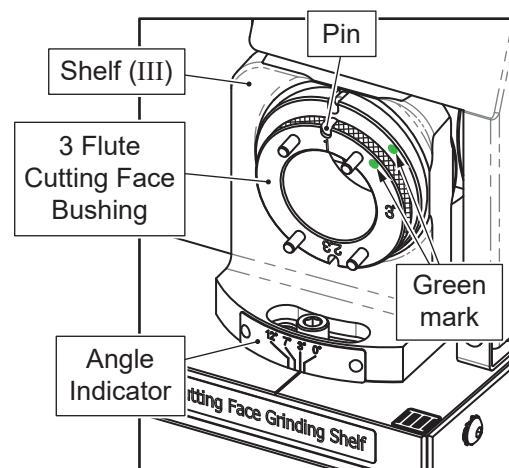

Fig. 12-3
3. Cutting Face Grinding Shelf (III) (Fig. 12-3)
- ① Adjust the Shelf (III) to 3°.
- ② Insert 3 Flute Cutting Face Bushing into the Shelf (III), align No.1 of the bushing to the pin on the shelf, then insert it to the end.